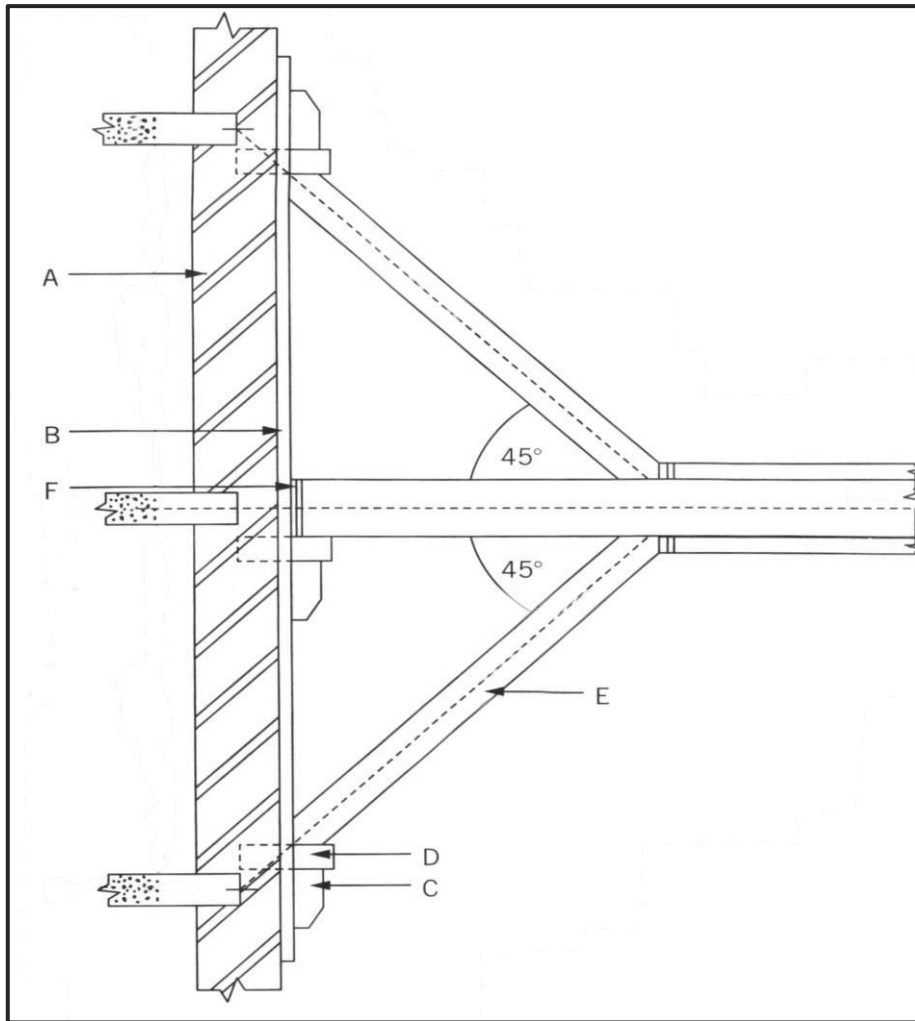

FIGURE 5.3
5.3 FIGURE 5.3 is an example of shoring. Study the drawing and answer the questions that follow.